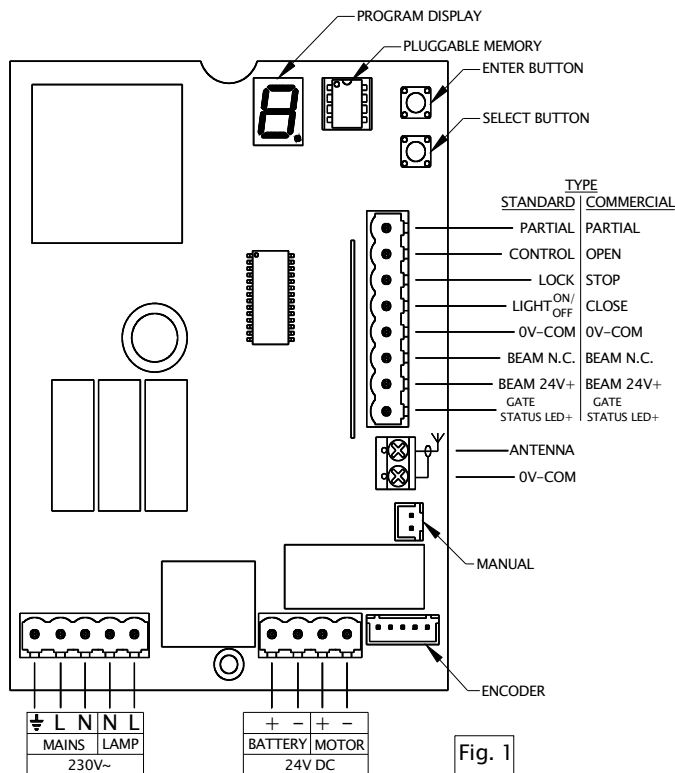

Fig. 1
Refer to Fig. 1
5. Pull the Manual Over-ride Lever. Referring to Fig. 1, swap the Motor wires on the second plug. Re-engage the Manual Over-ride Lever and the motor will close slowly.